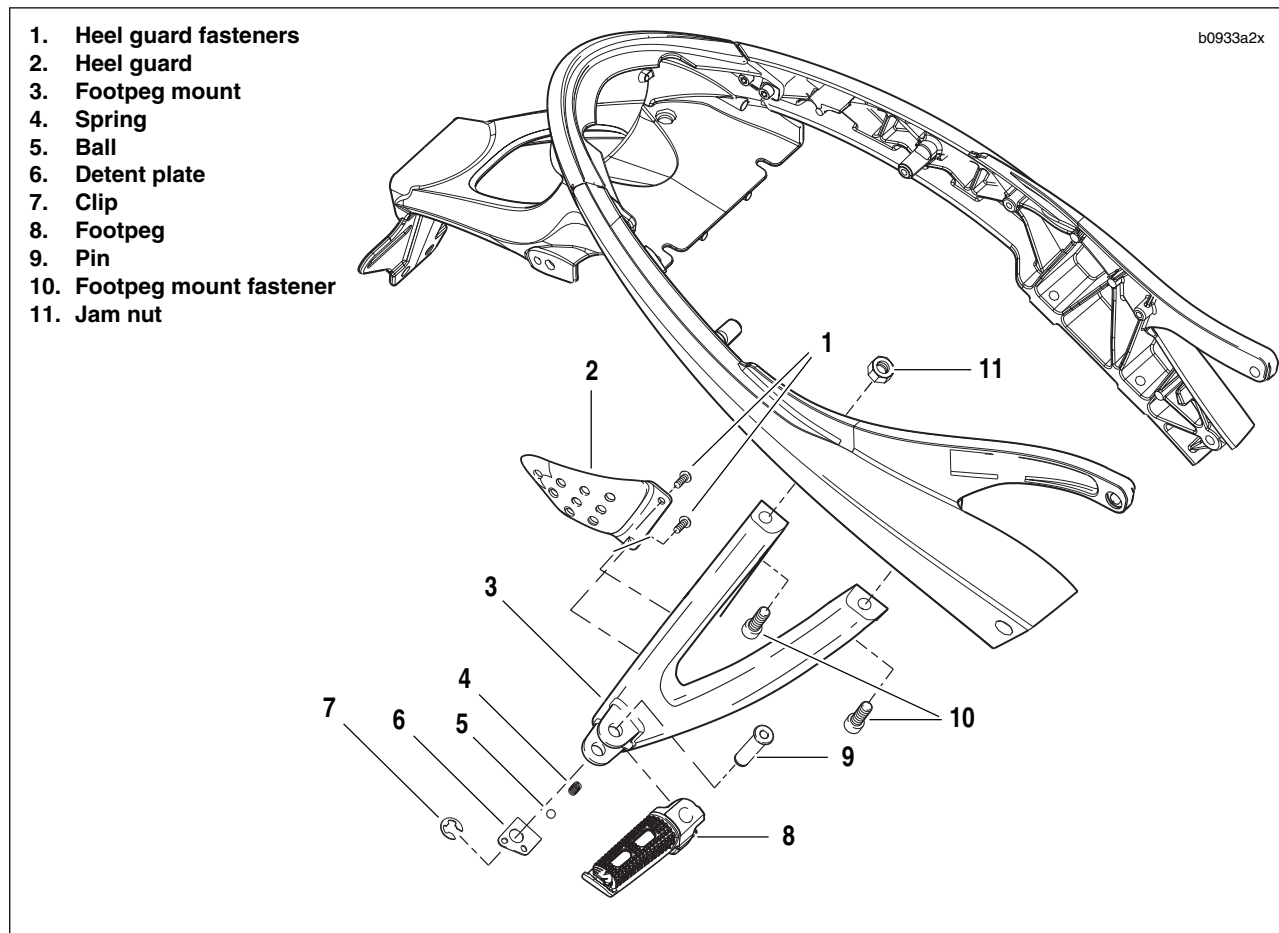

Figure 2-105. Passenger Footpeg, Mount and Heel Guard Assembly
1. See Figure 2-105. Remove clip (7).
2. Remove footpeg pin (9).
3. Remove footpeg (8), detent plate (6), ball (5) and spring (4).
1. See Figure 2-105. Remove heel guard fasteners (1).
2. Remove heel guard (2).
1. See Figure 2-105. Remove footpeg mount fasteners (10).
2. Remove footpeg mount (3).
1. See Figure 2-105. Position footpeg mount (3) onto tail section.
2. Apply LOCTITE 272 (Red) to footpeg mount fasteners (10), install and tighten to 25-28 ft-lbs (34-38 Nm).
3. Install jam nut (11) and tighten to 48-72 **in-lbs** (5.4-8.1 Nm).
1. See Figure 2-105. Position heel guard (2) onto footpeg mounts (3).
2. Install heel guard (2).
1. See Figure 2-105. Position footpeg (8), detent plate (6), ball (5), and spring (4) on to footpeg mount (3).
2. Install footpeg pin (9).
3. Install clip (7).